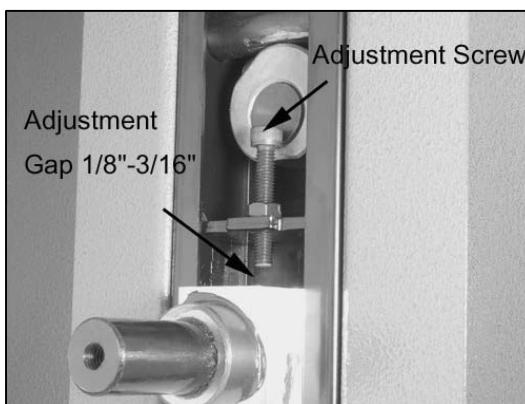

Figure 7-11
4. **Models JWBS-15 and JWBS-18:** Turn adjustment screw (Figure 7-11) until gap between screw and wheel shaft hinge is $1/8$ to $3/16$ in.